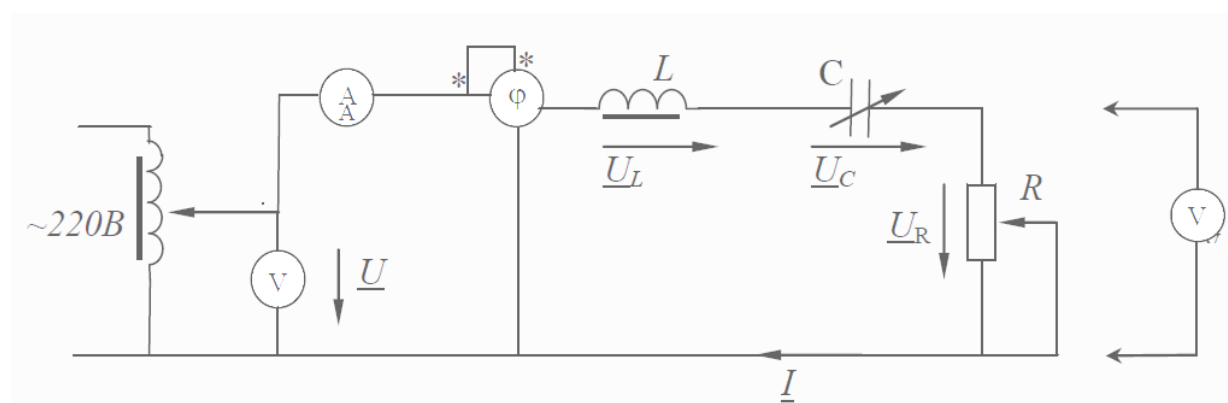

Fig. 3.10
1. Connect the circuit (fig. 3.10). The investigation is assumed to be for the constant frequency and input voltage. A jump-like change of the capacitance should be made twice from $0.5 \mu F$ to $64 \mu F$ which corresponds changing the impedance from active-capacitive character to active-inductive character as well as active character at resonance mode. Move the core inside the coil to reach the resonance. The coil is assumed to be a linear element.